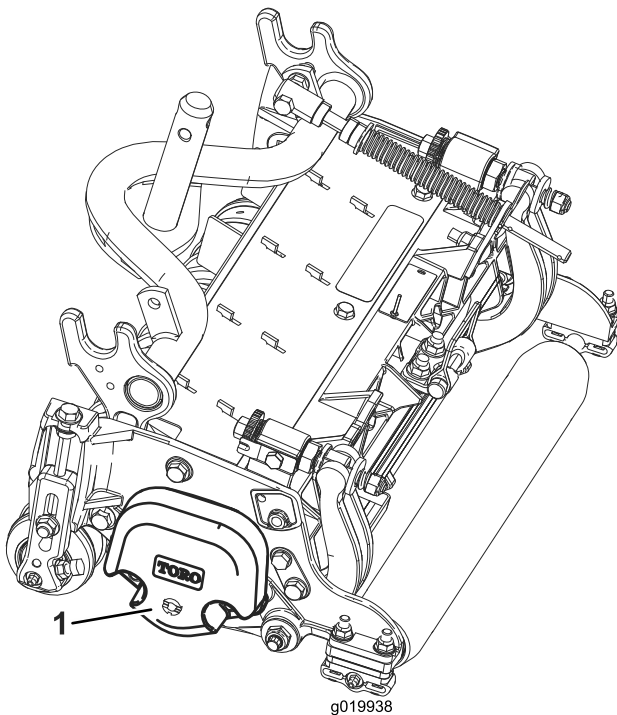

Figure 3
4. Make sure the counter weight (Figure 3) is installed to the proper end of the cutting unit as described in the cutting unit Operator's Manual.